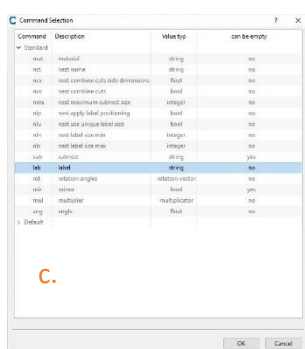

Figure 68
- Select the Label (lab) Command (double-click or mark + **OK** button) (Figure 68).